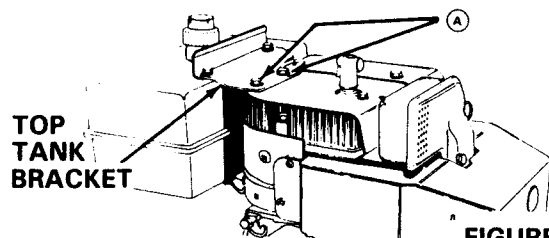

FIGURE 52
Refer to Figures 52 and 53 and determine the type of "fuel tank bracket" with which your engine is equipped.
- B. FOR "FUEL TANK BRACKET" AS IN FIGURE 52, PROCEED AS FOLLOWS:
2. Remove two (2) screws marked ⊙ in Figure 52.
For "Fuel Tank Bracket" as shown in Figure 52, proceed as follows:
2. Remove the two (2) screws marked (A) in Figure 52.